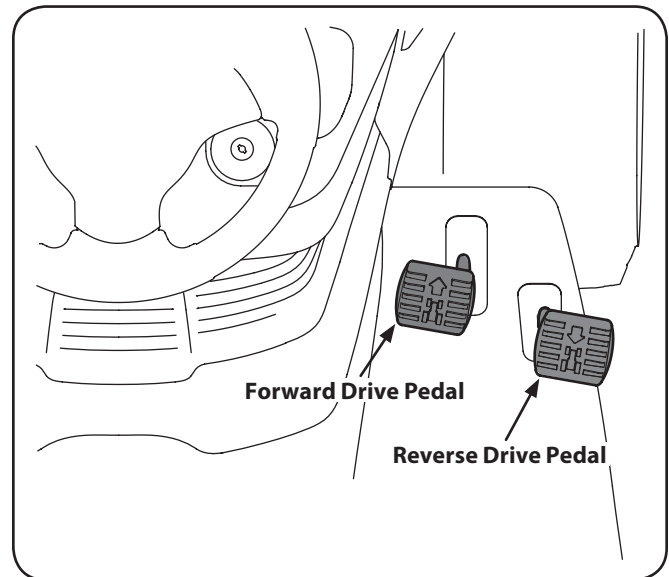

Figure 5-2
1. Lightly press the brake pedal (○) to release the parking brake (P). Move the throttle lever into the FAST  position.
2. To travel FORWARD, slowly press the forward drive pedal  forward until the desired speed is achieved. See Fig. 5-2.
3. To travel in REVERSE, check that the area behind is clear then slowly depress the reverse drive pedal  until the desired speed is achieved. See Fig. 5-2.